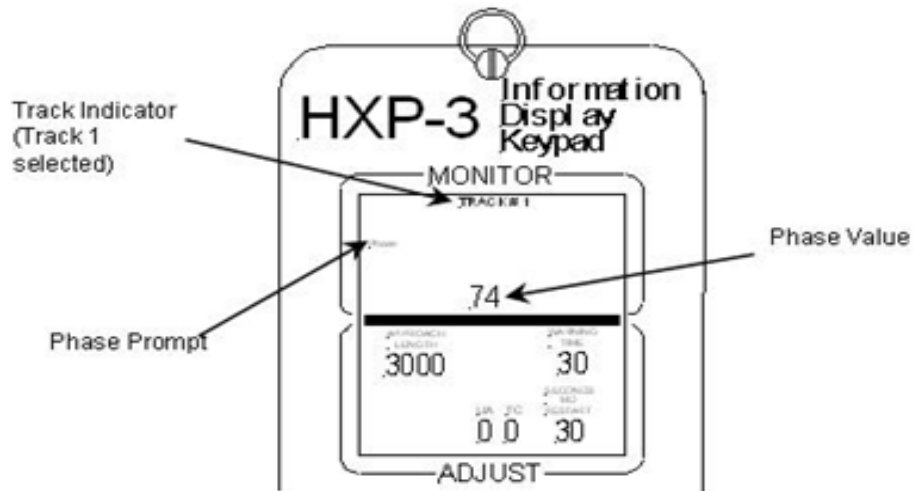

Figure 3 – HXP-3 Information Display - Phase Prompt
7.6 After RX is set, press the MONITOR SEL button until the PHASE prompt is displayed, as shown in Figure 3.